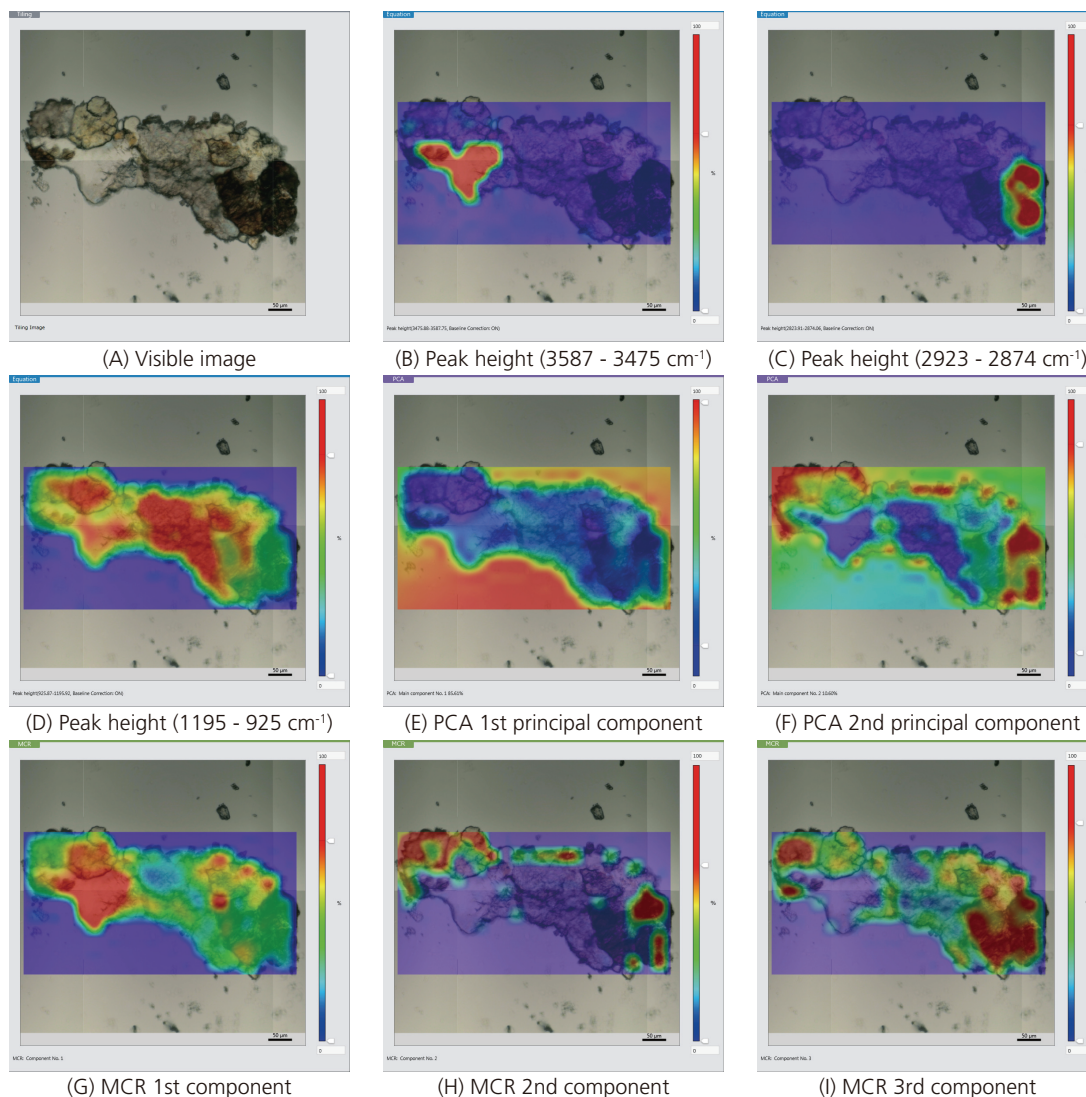

Fig. 7 Chemical Imaging of Sample
Chemical imaging obtained from the measured sample using several techniques is shown in Fig. 7. From the top left: (A) visible image, (B) peak height at 3587-3475 cm^{-1} , (C) peak height at 2923-2874 cm^{-1} , (D) peak height at 1195-925 cm^{-1} , (E) PCA 1st principal component, (F) PCA 2nd principal component, (G) MCR 1st component, (H) MCR 2nd component, and (I) MCR 3rd component.
The chemical imaging in Fig. 7 displays OH group